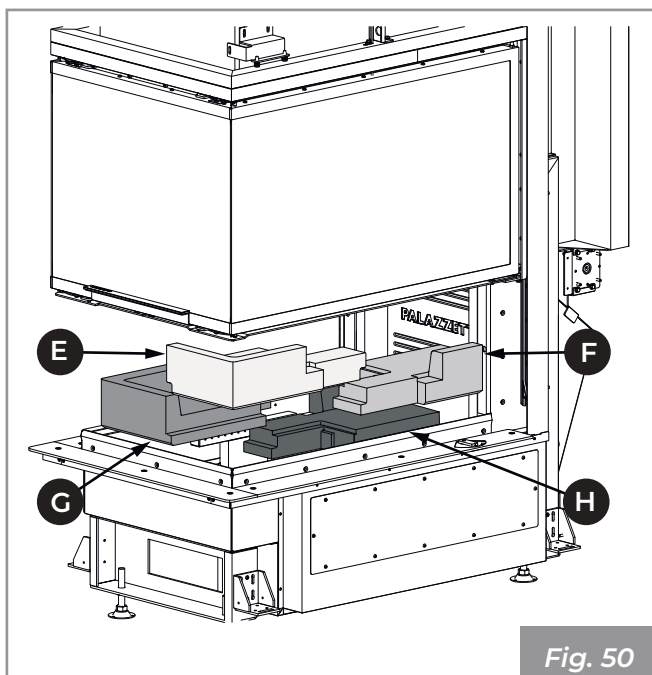

Fig. 50
- 3) Lift and extract the refractory brick bases (E, F, G, H) from the base in order and vacuum out any ash deposited in the compartments below (Fig. 50).